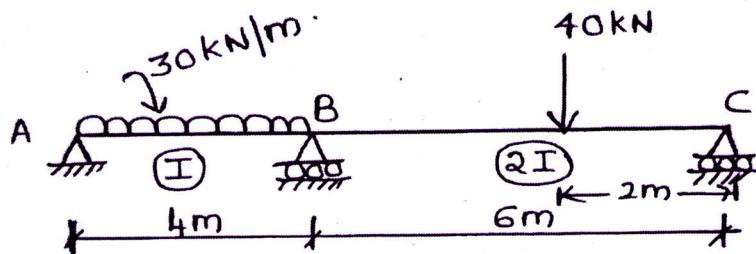

Fig. 1
- 1 a) Analyse the two-span continuous beam shown in Fig. 1 using three moment theorem. (15)